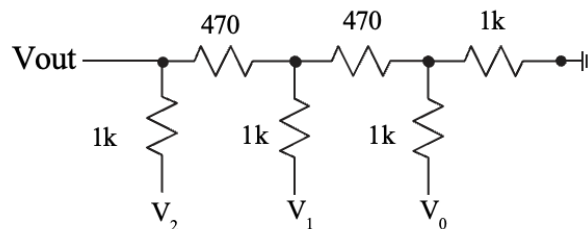

Figure 4.8: Three-bit R-2R ladder.
1. Construct the circuit in Figure 4.8 and measure the output voltage using the oscilloscope and table the values. To generate the changes in voltages, set: